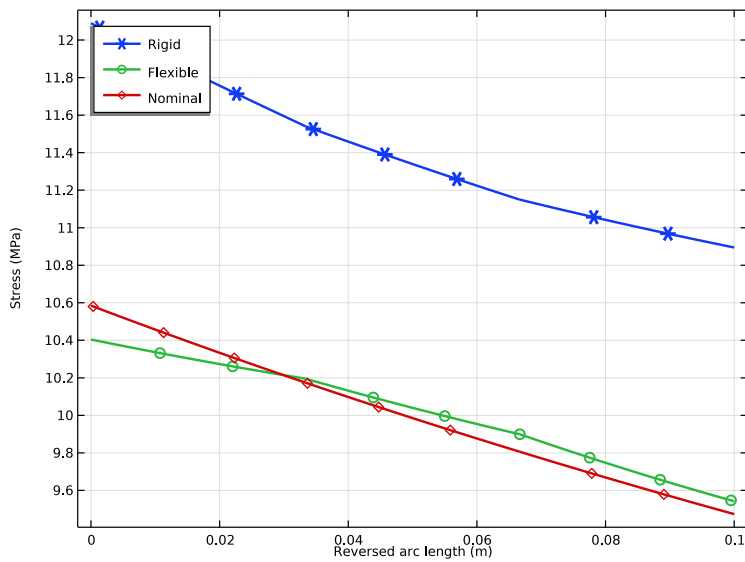

Figure 9: Hoop stress through the thickness at the transitions (pressure).
- The hoop stress at the transitions is shown in Figure 9. The nominal value represents the theoretical value. It can be seen that the predictions using the flexible connection are significantly better than when using the rigid connection.